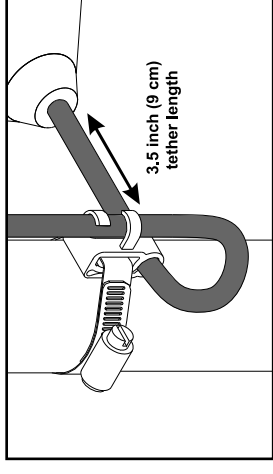

FIGURE 5 - Mounting clamp detail
4. Place the cord into the clamp as shown in Figure 5.
5. Locate the clamp at the desired activation level and secure the clamp to the discharge pipe as shown in Figure 5.